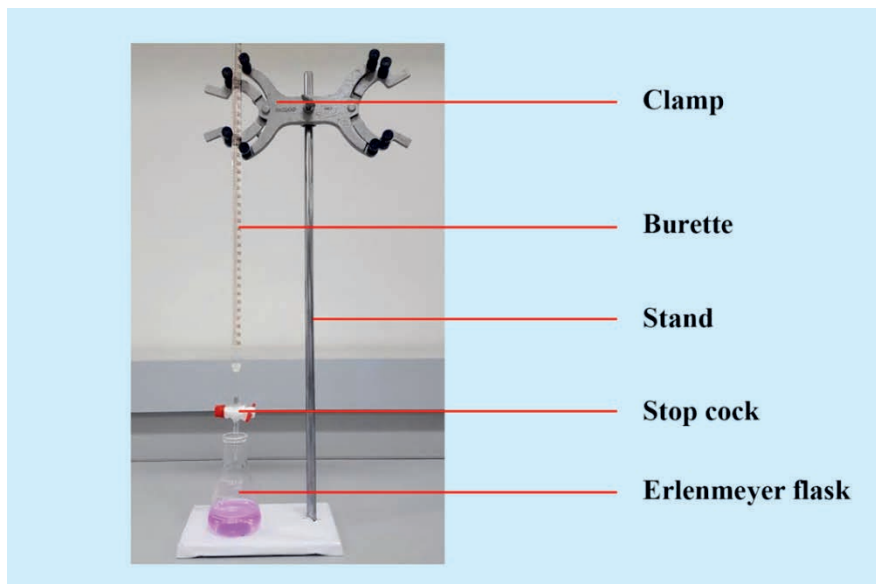

Figure 1.3: Titration Setup.
1. Clean the burette with distilled water and rinse it with the 0.1N sodium hydroxide solution; and fix the burette on the burette clamp in vertical position (**Figure 1.3**).